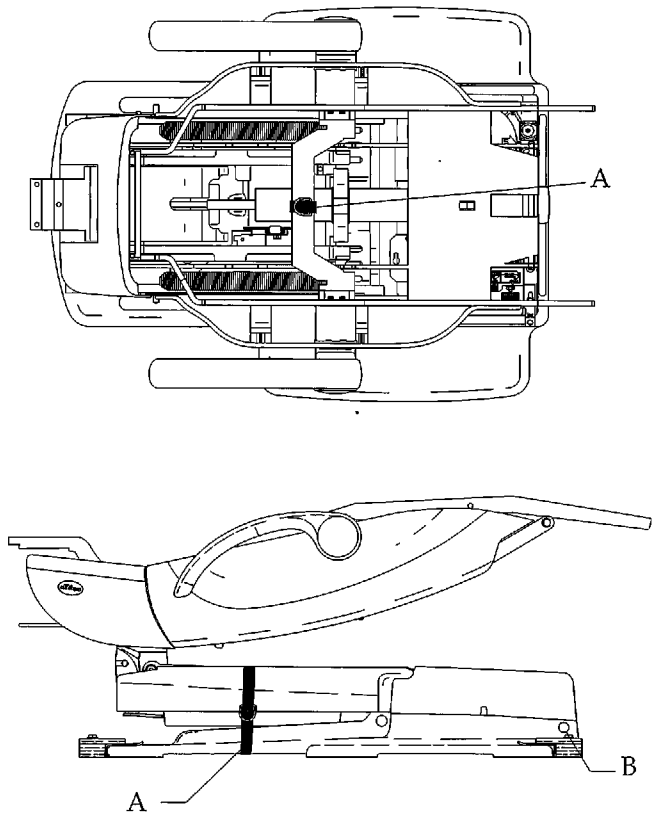

Figure 1. Removing the chair from the pallet. (A) shipping straps; (B) power button
1. Unpackage the chair, but do not remove the shipping straps (see Figure 1).